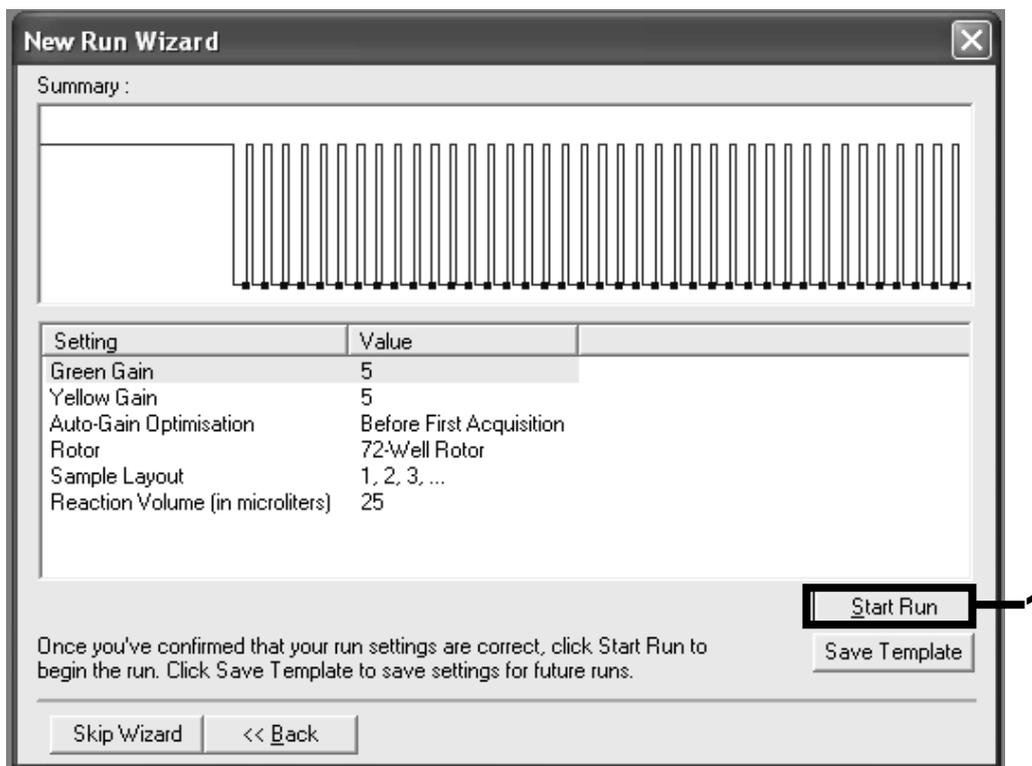

Figure 13. Starting the run.
Starting the run	Figure 13
21. Check the summary and click "Start Run" to save the run file and start the run (Figure 13).